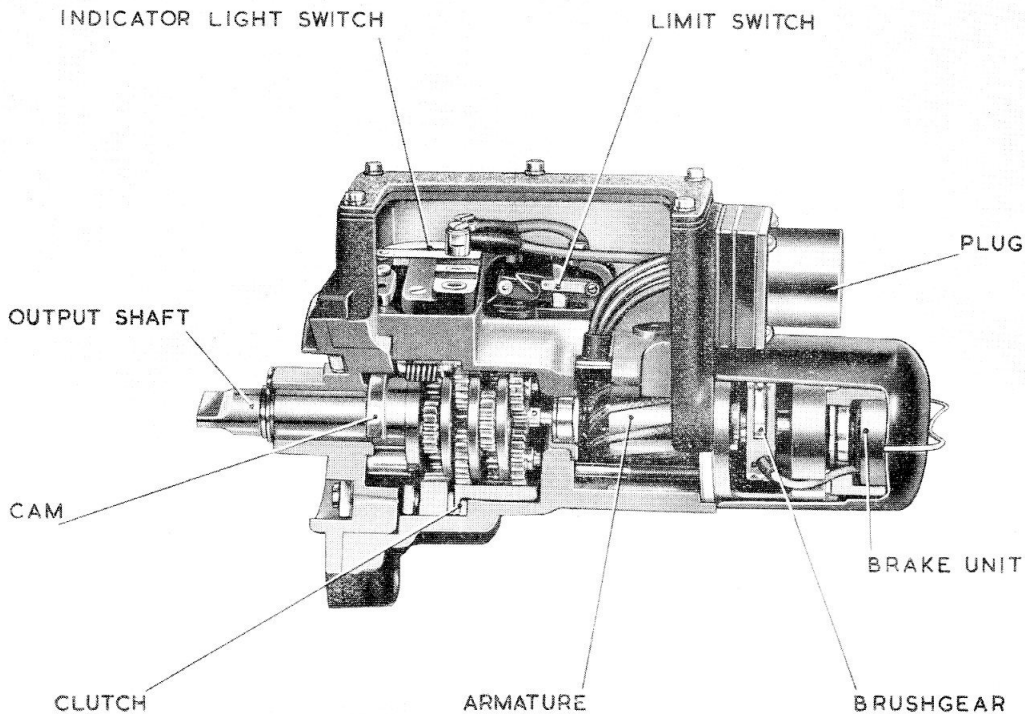

Fig. 1. Sectional view of C5609 actuator
1. The C5609 actuator (*fig. 1*) is similar to that described and illustrated in the main chapter, but has the following characteristic features : —